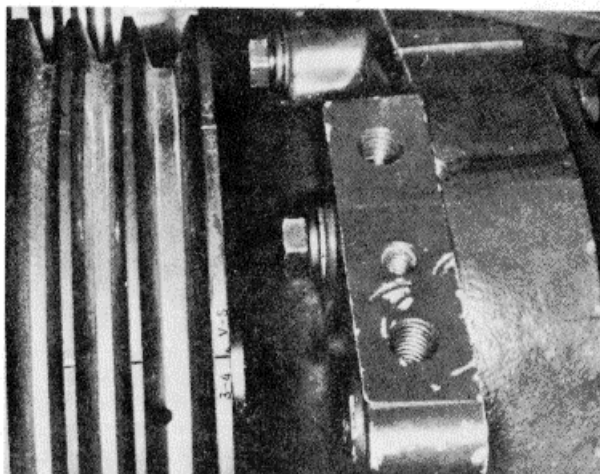

Fig. 2-52, (N114220) Valve set timing marks
2. Bar engine in direction of rotation until a valve set mark (1, Fig. 2-52) aligns with the boss (2) on the gear case cover. Example: A or "1-6 VS". This location is marked with a notch in the drive pulley. Note: Fig. 2-52 illustrates 3-4 "VS" valve set mark,